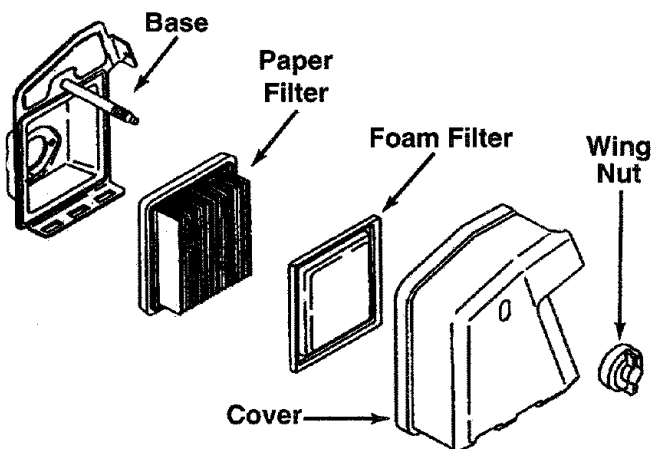

FIGURE 15.
- Remove wing nut and cover. Remove paper filter. See figure 15.